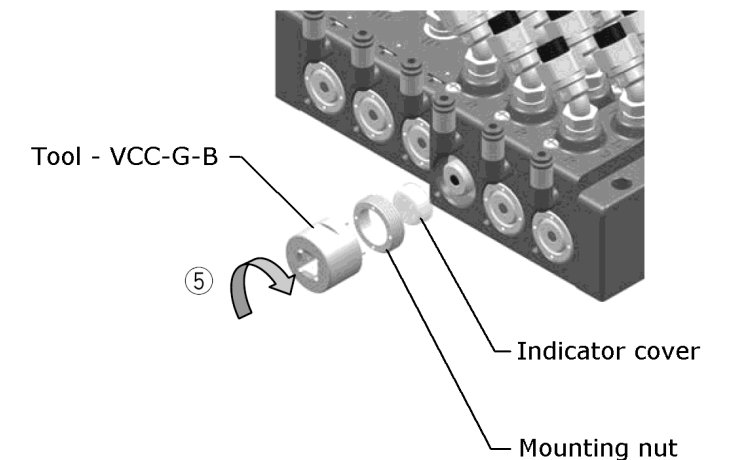

Figure 7
- Ensure the indicator cover is assembled and assemble the mounting nut using tool VCC-G-B ⑤. See Figure 7.